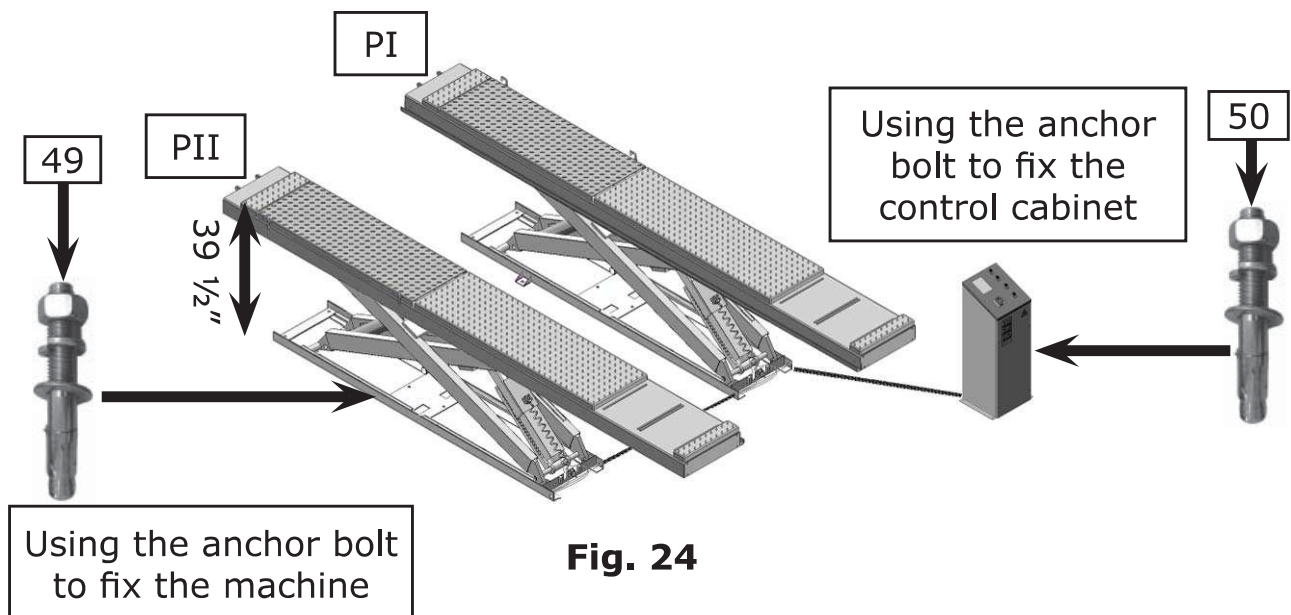

Fig. 24
- 2.1 Raise the lift to 1000mm then drill holes to install the anchor bolts (**See Fig. 24**).